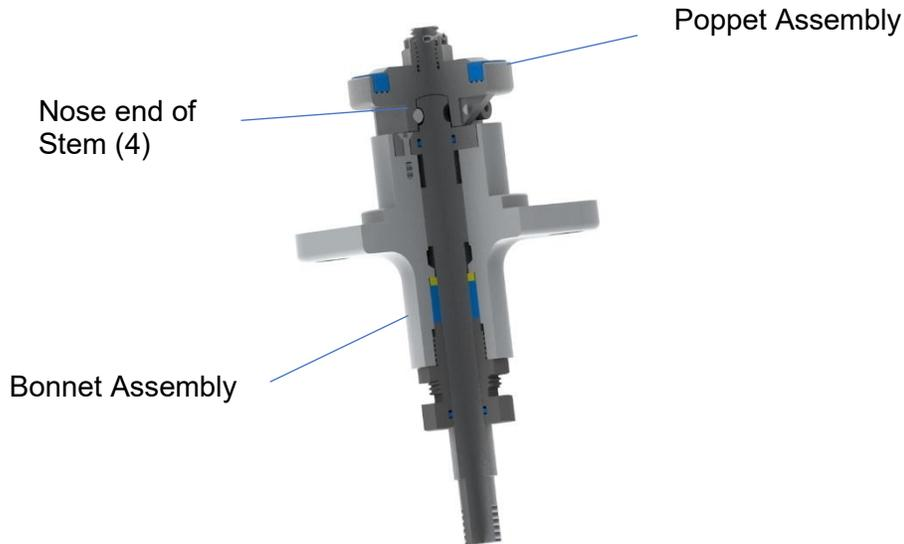

Figure 14
- 11.36. Refer to Figure 14. Place the Bonnet assembly into a fixture with the nose end of the stem (4) pointing up.
- 11.37. Place the poppet assembly onto the end of the stem (4) as shown in Figure 14.